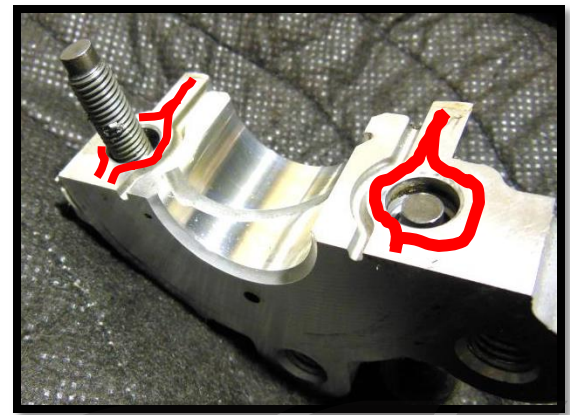

Figure 5e
- e) Place a small bead of silicone sealant (red lines in Figure 5e) onto the head mating surface of the #6 intake bearing cap. Finger tighten the 10mm bolts.